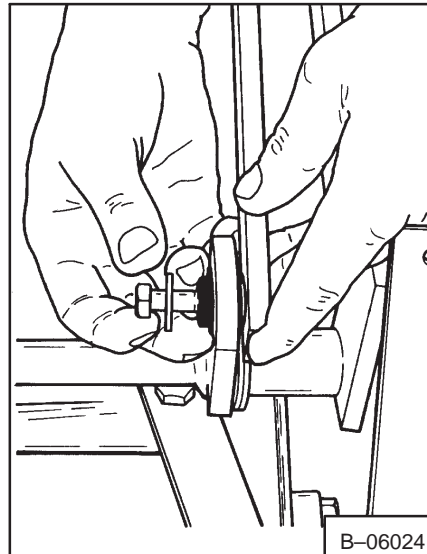

Fig. 3-13 Steering Linkage Bolts
2. Loosen the nuts and bolts at the steering levers (Fig. 3-13).